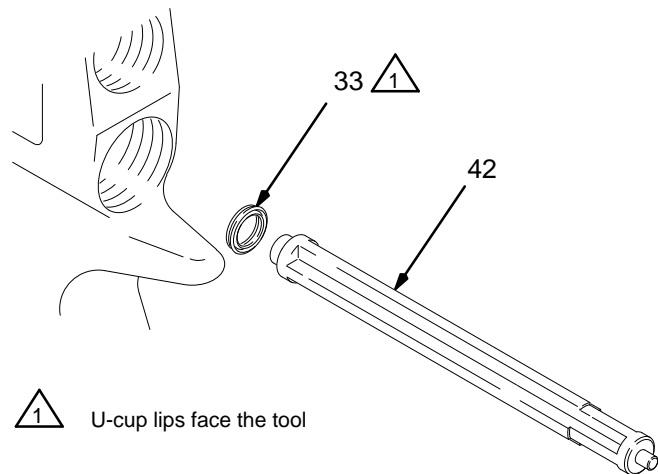

Fig. 37 _____ 02023
4. Place the new u-cup seal (33) on the seal installation tool (42) with the u-cup lips facing the tool. See Fig. 37.
5. Push the u-cup seal (33) into the gun until a definite snap is felt.